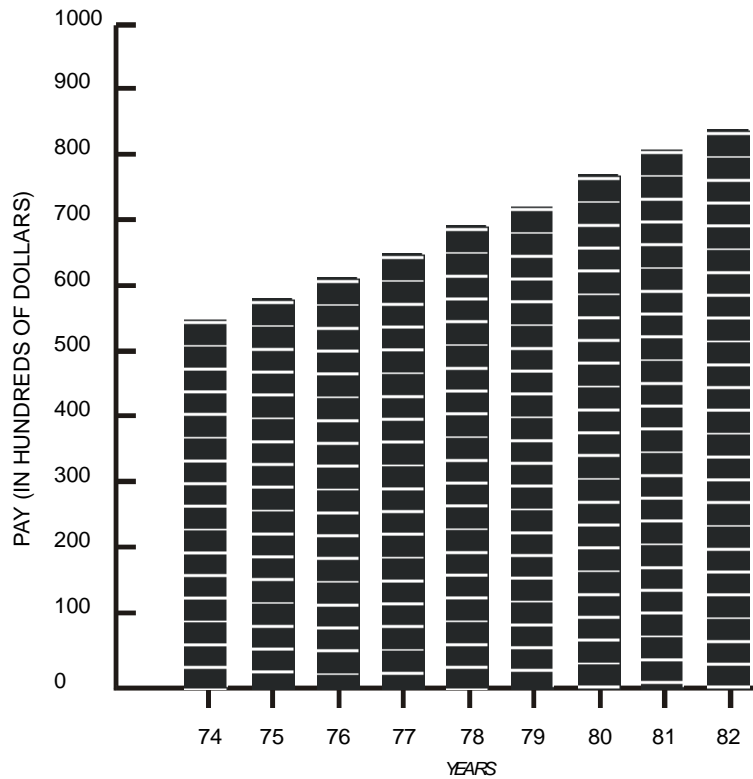

Figure 3-2. Typical bar chart.
- (2) Determine on which axis to plot the different sets of values. As a general rule, plot constant values along the x-axis and the dependent values along the y-axis. In Figure 3-2, the years are constant value and the cost values are the dependent values.
- (3) Select the paper size and scale of the bar graph. When laying out a bar graph, try to fill the entire page proportionately. Remember to allow for margins around the graph for text and explanatory notes.
- (4) Layout the x-axis. The intervals between the bars and spaces are drawn equally except for the front and back spaces. These two spaces are drawn half the width of the bar. To do this correctly, determine the total number of spaces needed, number of bars plus number of whole spaces. The scale is placed at a convenient angle that covers the number of spaces needed as shown in Figure 3-2. The zero of the scale is placed at point A and the last point on line AC falls on line BC, with line BC being any length. Using a scale, mark off the number of equally divided spaces you need. Place a half bar width space before the first bar. If there is too many constant values to give a full bar's width space between bars, spaces may be reduced to no less than half of a bar's width, making the beginning and ending space a quarter of a bar's width.
- (5) Layout the y-axis. Determine the largest value that will be shown. Determine what scale to use, keeping in mind that the increments should not be so close or so great that the information is lost.
- (6) Plot the given data. Bar charts are not intended to be precise. They are comparisons of approximates. If the chart is to be perfectly accurate, label the top of each bar with its value. A horizontal line is never drawn through a bar.
- (7) Finish the chart.